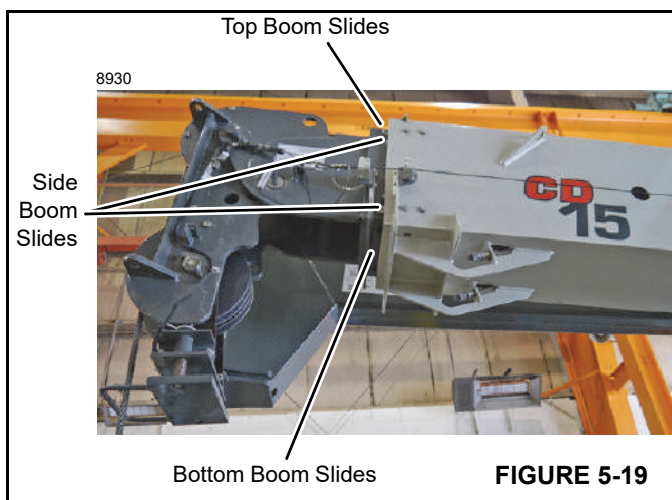

FIGURE 5-19
4. Brush Lithium Based, EP2 grease, or equivalent, to the sliding surfaces (Figure 5-19) on all boom sections. Only use a small amount of lubricant for best results.